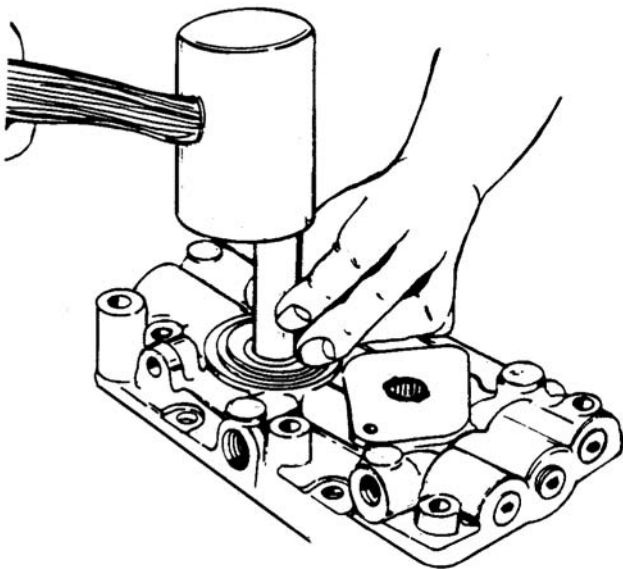

Figure 6-66. Pressing Seal Into Center Section
- j. Press seal into center section. See Figure 6-66.